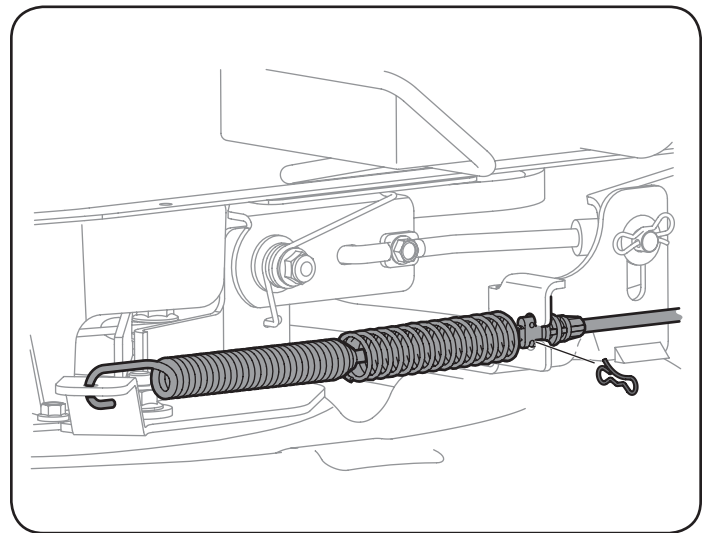

Figure 41
8. Carefully remove the PTO cable from the rear of the cutting deck by removing the bow-tie cotter pin which secures it. Remove the spring from the deck idler bracket. See Figure 41.